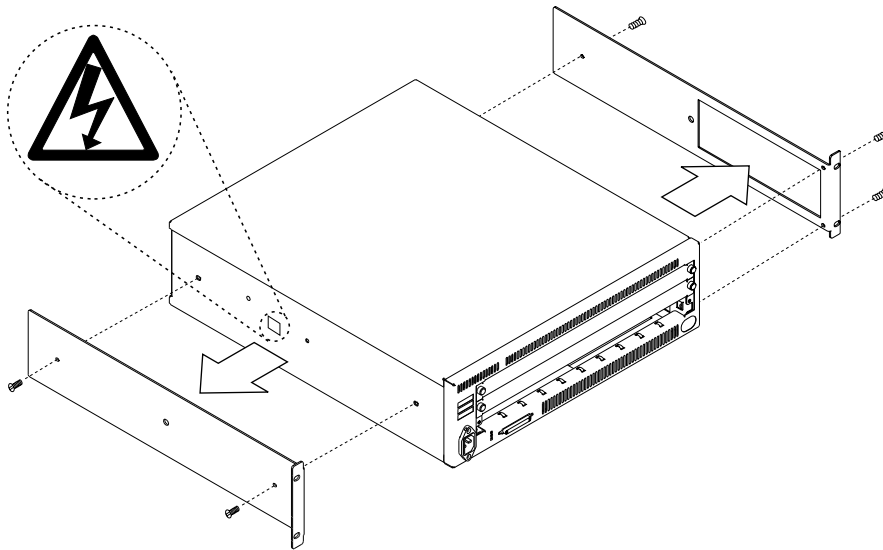

Figure 32. Attaching the Mounting Brackets for Surface Mounting
- **2** Remove the brackets and reattach the screws to the Expansion Unit as shown in Figure 32. Retain the brackets for possible future rack mounting.